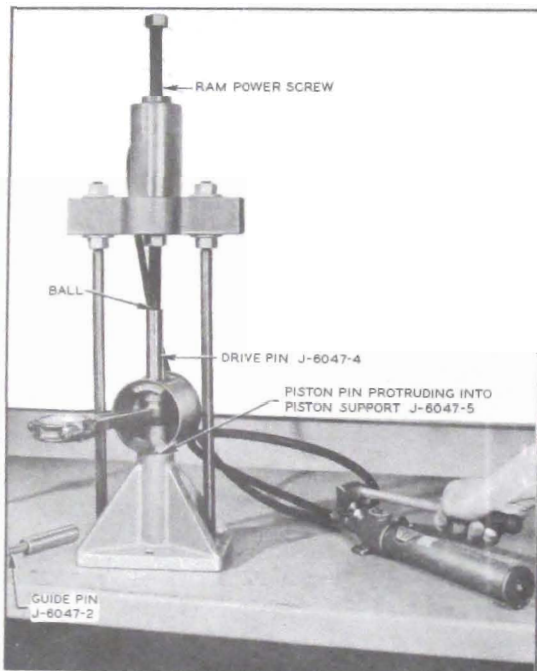

Figure 2-31—Piston Pin Removal
8. Place piston and rod assembly in press, see Figure 2-31. Using Piston Support J-6047-5 (with full radial face up) under the piston, place Drive Pin J-6047-4 in upper end of piston pin and press pin from rod and piston. Guide Pin J-6047-2 is not used during pin removal. See Figure 2-31.
12. Insert piston and rod assembly into its cylinder bore with the long guide pin placed above the crankpin. Push the assembly down until the rod bearing seats on crankpin. See figure 2-31.